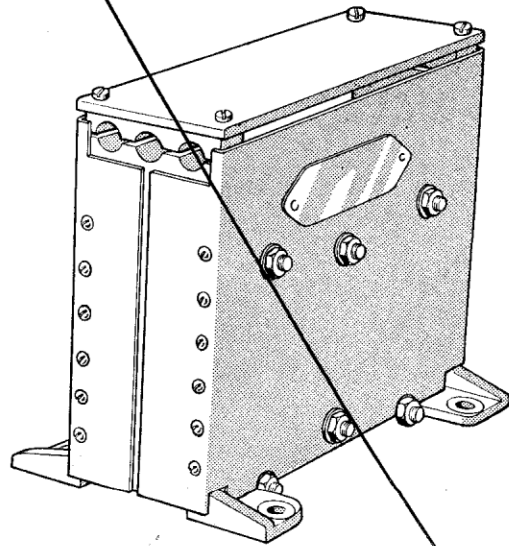
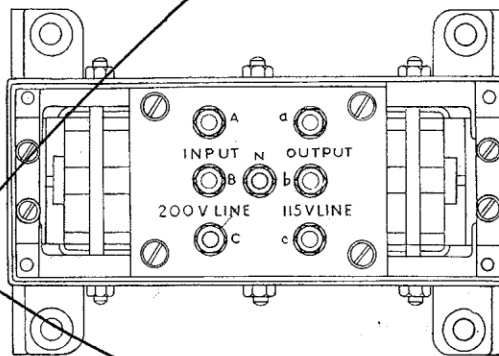

Fig. 1. Typical Ferranti transformer (Type RD 6609 shown)
Fig. 2. Typical terminal arrangement (Type RD 6609 shown)
2. A typical transformer is illustrated in fig. 1 and its terminal arrangement is given in fig. 2. Fig. 1 of Appendix 1 to this chapter shows the circuit diagrams of all the transformers listed.